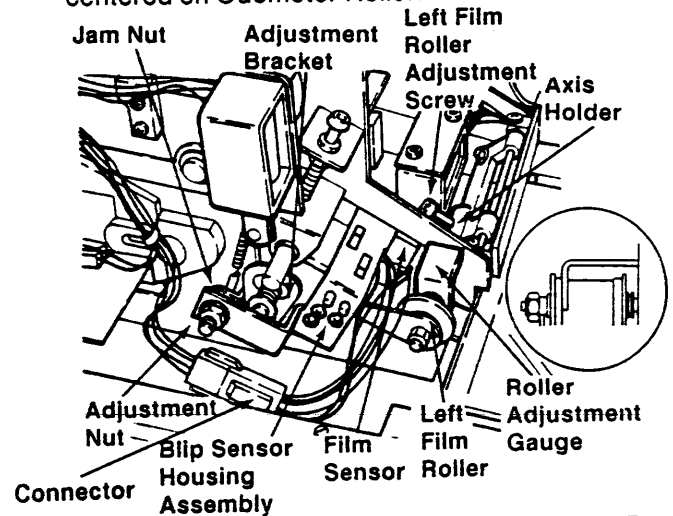
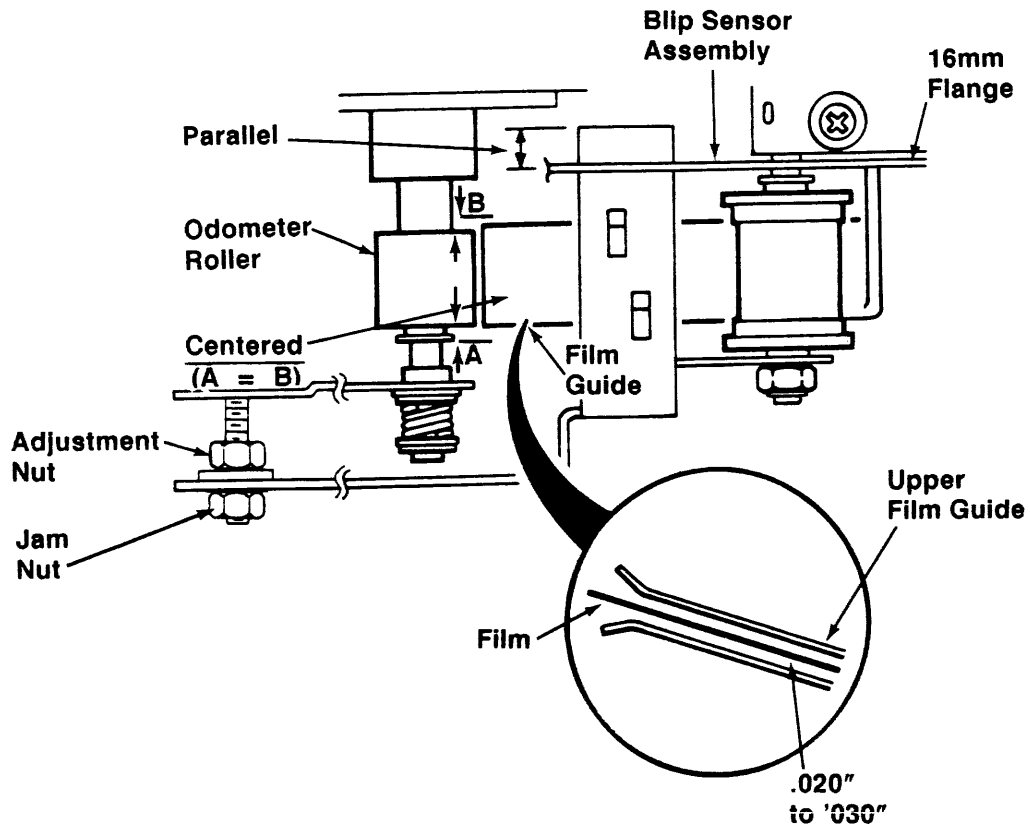

Figure 2-3.2D
Figure 2-3.2E
- Insert the Left Film Roller Shaft of the Blip Sensor Housing Assembly into the Axis Holder allowing the threaded shaft of the Adjustment Bracket to go through the hole in the Blip Sensor Assembly (Figure 2-3.2D).
- Place the M-656 Roller Adjustment Gauge (Item 20) against the 16 mm flange of the Left Film Roller (Figure 2-3.2D).
- Push the Left Film Roller and Roller Adjustment Gauge against the frame and tighten the Adjustment Screw (Figure 2-3.2D).
- Plug the Connector from the Film Sensor with the Connector for the Film Sensor Wiring Harness disconnected in Step 6 (Figure 2-3.2D).
- Loosely install the second M4 x 0.7 mm Jam Nut (Item 21) on the outside of the Blip Sensor Assembly (Figure 2-3.2D) and move the Adjustment Nut to the front or rear as required so that the Blip Sensor Assembly and frame of the M-654 are parallel (Figure 2-3.2E see next page) and Film Guide is centered on Odometer Roller.
- Tighten the Jam Nut against the bracket of the Blip Sensor Assembly and Adjustment Nut (Figure 2-3.2D).